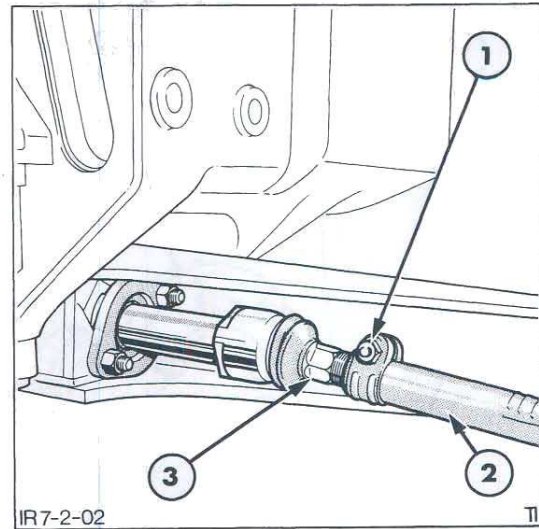

Figure 3
1. Loosen the clamp bolt on each track control rod, Figure 3.